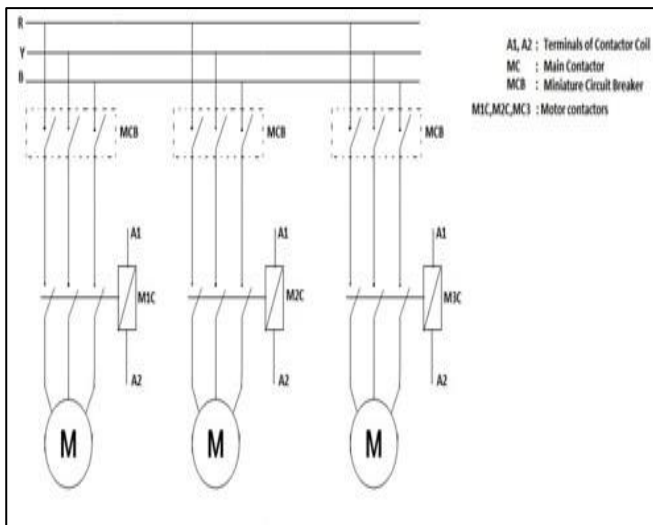

Fig.12 Sequential control of three motors
1. Verify about the component's importance of sequential control operation for fig.12 using ladder diagram in terms of concepts.